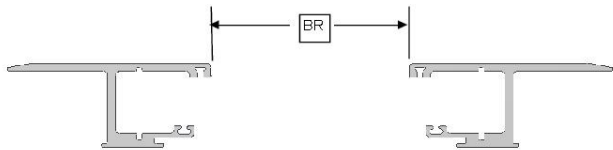

FIG. 5A
Finally, check for proper spacing by measuring between the rails at the canister and the tailgate end of the rails (Fig 5A). The measurement should be equal to less then those in Fig 5B. The Rail Brackets and Shims have been pre-installed to achieve the proper Between the Rail dimensions (BR) when placed on an average factory truck bed. However, not all truck beds are average dimensionally and some have optional plastic caps or over the rail spray-in bedliners.